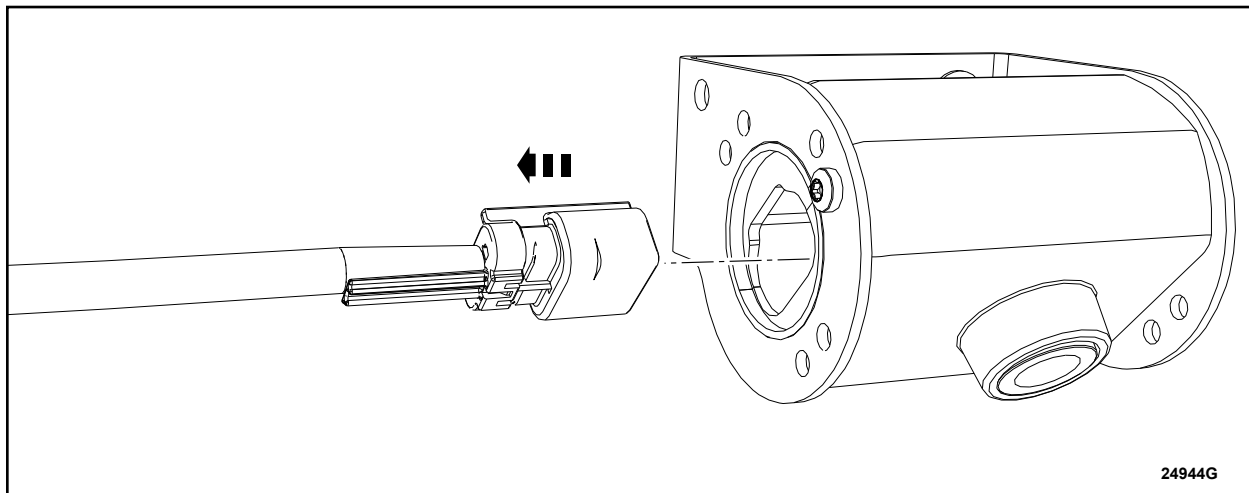

FIGURE 1
- For chassis cab / cutaway vehicles with prep kit cameras, see Figure 1.